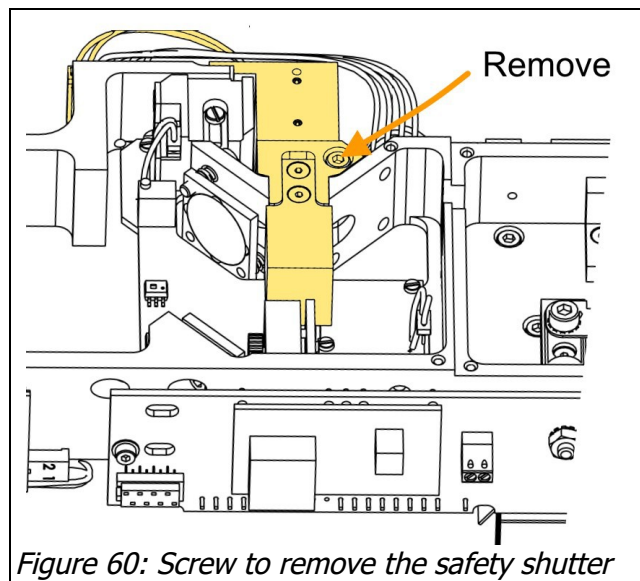

Figure 60: Screw to remove the safety shutter
- reinstall the shutter (see Figure 60: Screw to remove the safety shutter)